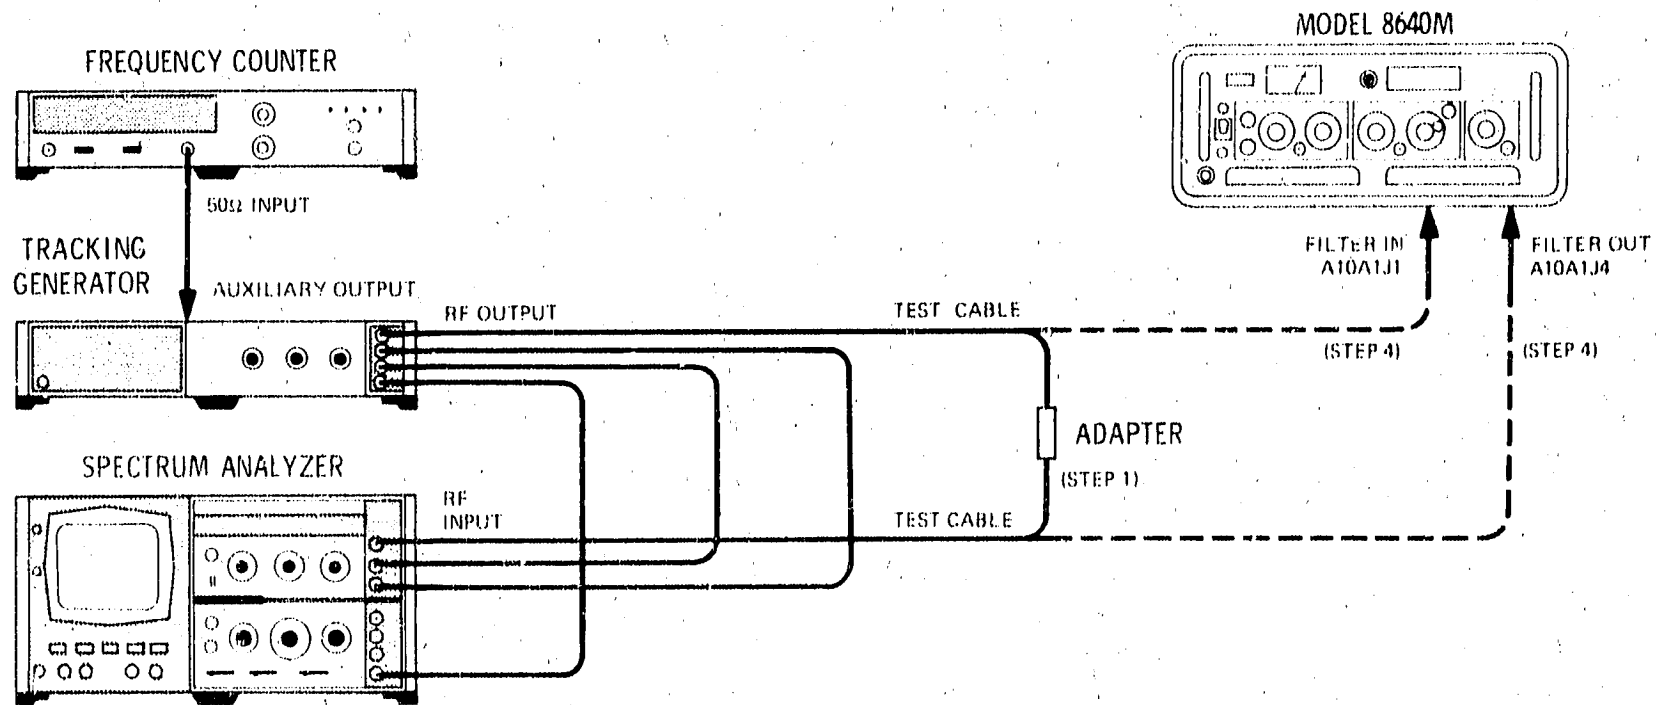

Figure 5-6. RF Filter Adjustment Test Setup
1. Connect equipment as shown in Figure 5-6 after setting Signal Generator's controls as follows: